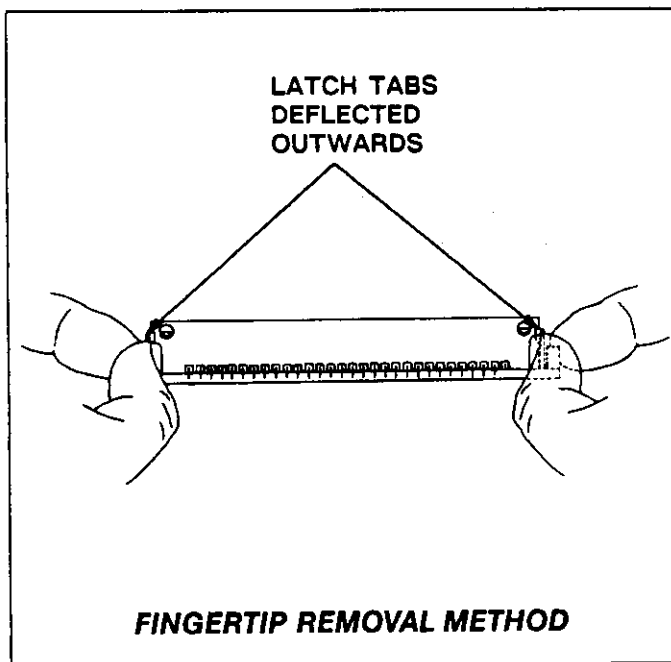

Fig. 4
A. Fingertip Removal Method (Figure 4)